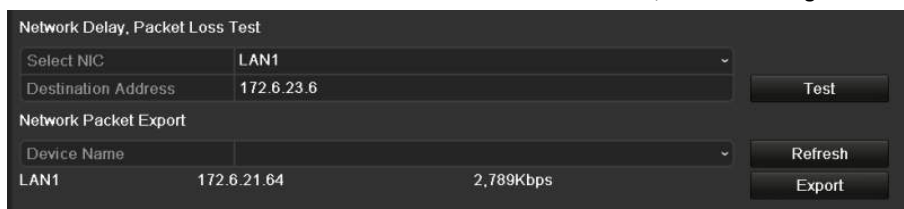

Figure 11. 35 Network Detection Interface
2. Click the **Network Detection** tab to enter the Network Detection menu, as shown in Figure 11. 35.